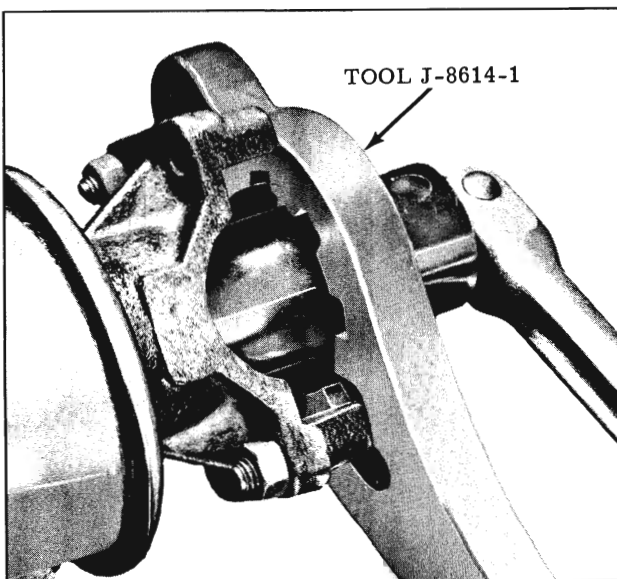

Fig. 6-103 Removing Pinion Nut
2. Attach Tool J-8614-1 with notches towards companion flange. (Fig. 6-103) Center Tool J-8614-1 on flange using Tool J-8614-2, then remove J-8614-2. Tool J-8614-1 to companion flange bolts MUST BE TIGHT.